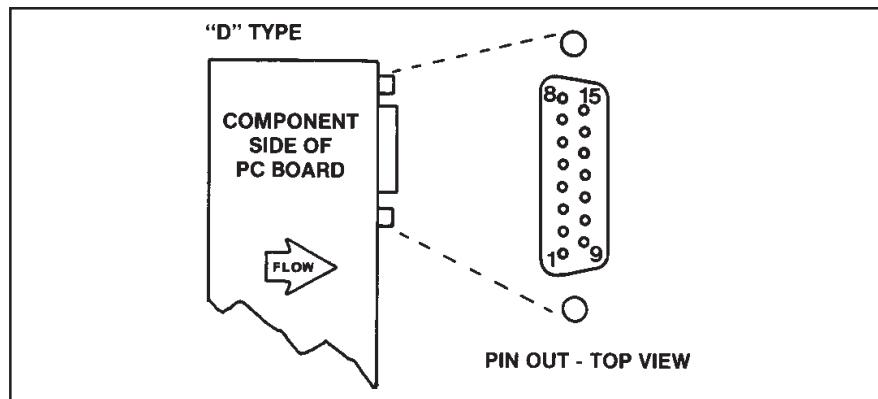

Figure 3-2 Model 5861E Calibration Connections
- b. Connect the DVM positive lead to the 0-5V signal output (pin 2 D-connector, refer to Figure 3-2) and the negative lead to circuit common (TP4). Adjust the zero potentiometer for an output of 0mV \pm 2mV.